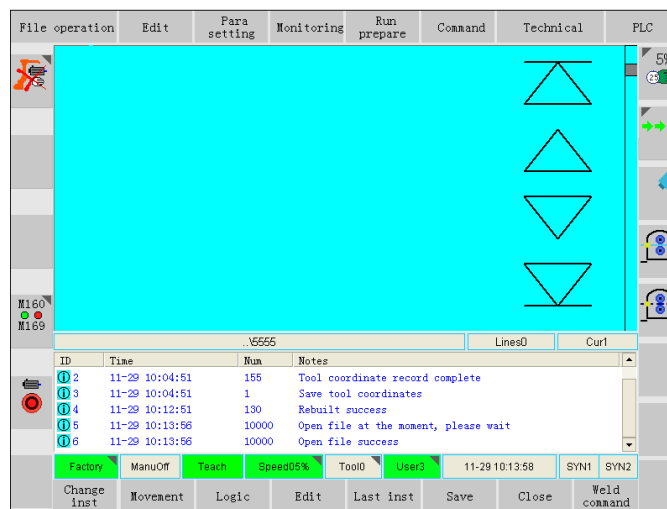

Fig.7.4
1. Click the **【Open】** icon in the submenu area to open the "5555" program and enter the program editing interface, as shown in Fig.7.4.